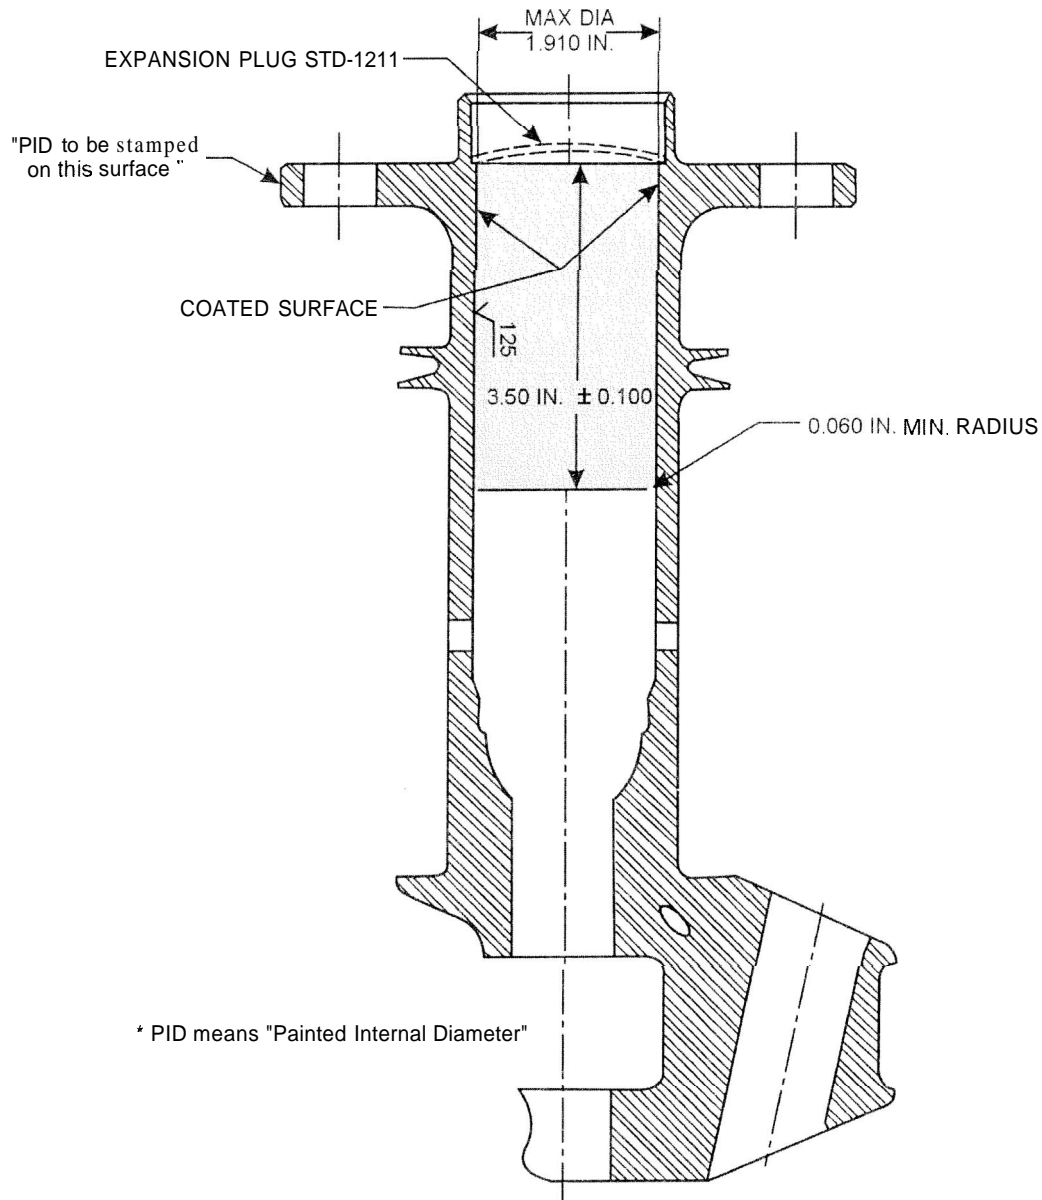

Figure 7-4C.
- f. Bore I.D. to remove Urethabond 104. Do not exceed required dimensions. See figure 7-4C.